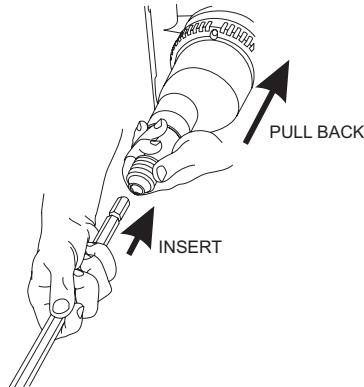

Figure 2. Inserting Mixing Tools
1. Insert the mixing tools (see Table 3 for the different mixing tools/paddles available) into the HEXAFIX® coupling as far as necessary to lock the tools in place, automatically (see Figure 2).